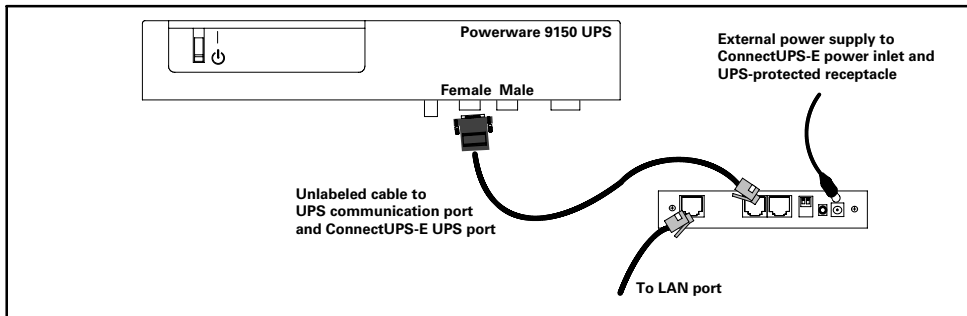

Figure 7. Installing the ConnectUPS-E with a Powerware 9150 UPS
3. **If the female port is available**, use the supplied, unlabeled serial cable to connect the UPS port on the ConnectUPS-E to the female, 9-pin, RS-232 port on the UPS (see Figure 7). Continue to Step 5.